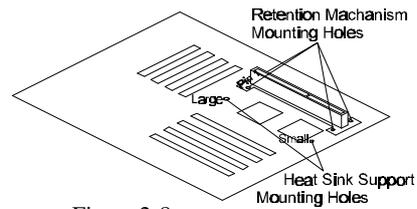

Figure 2-8
1. Finds out the Retention Mechanism (RM) Mounting Holes and "Pin 1" mark of Slot 1 on HOT-661/P main board. (Refer to Figure 2-8)